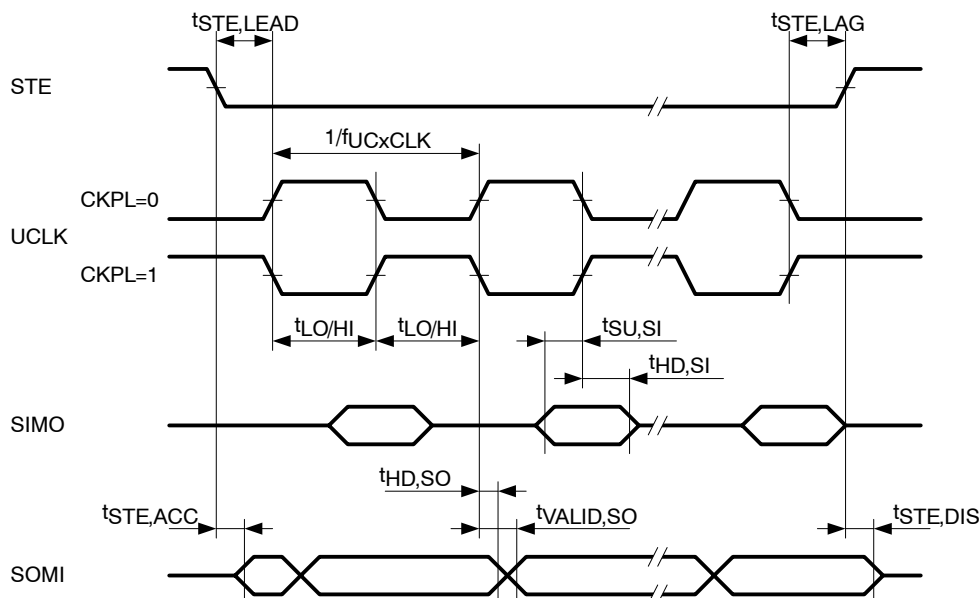

Figure 23. SPI Slave Mode, CKPH = 0
**USCI (SPI slave mode) (see Note 1, Figure 23, and Figure 24)**
- Specifies the time to drive the next valid data to the SOMI output after the output changing UCLK clock edge. Refer to the timing diagrams in Figure 23 and Figure 24.
- Specifies how long data on the SOMI output is valid after the output changing UCLK clock edge. Negative values indicate that the data on the SOMI output can become invalid before the output changing clock edge observed on UCLK. Refer to the timing diagrams in Figure 23 and Figure 24.